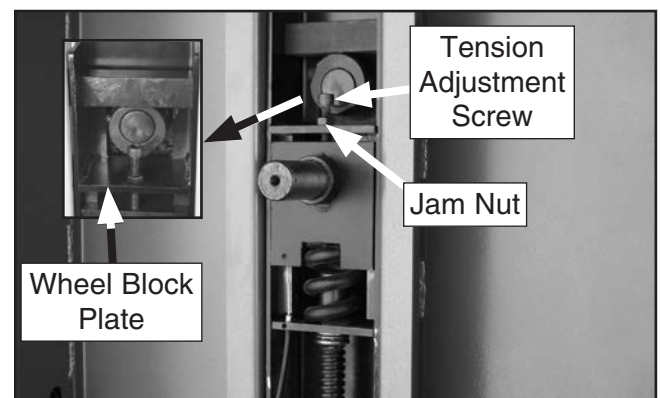

Figure 99. Example of quick-release tension lever adjustment screw.
3. Loosen the jam nut on the tension adjustment screw 7-10 turns (see **Figure 99**).
5. Thread the tension adjustment screw (see **Figure 99**) down until it contacts the wheel block plate, then back it off 1-2 turns.